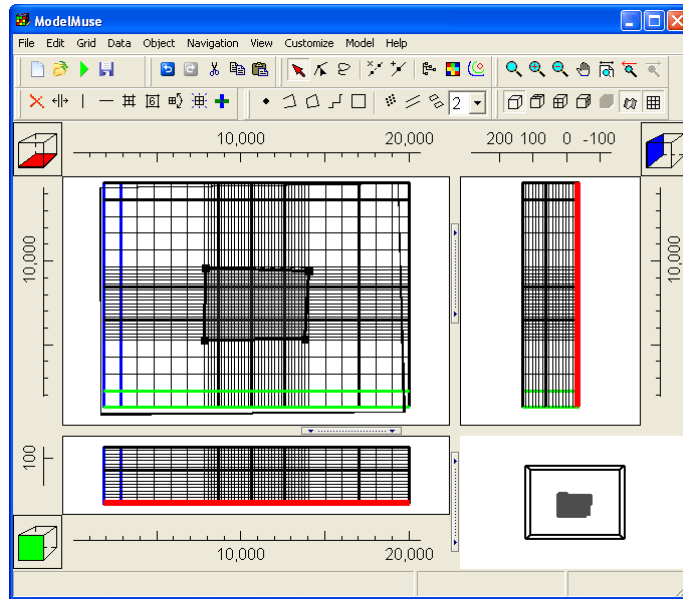

Figure 15. Grid with region with smaller elements specified by polygon object.
3. It may be desirable to have a finer grid in some regions than others. To do this, additional objects can be used to specify a zone where a fine grid will be used (fig. 15). In this example, the object specifies an element size of 200 m in the **Grid element size** edit box of the **Object Properties** dialog box.
4. After choosing **Grid|Generate Grid...** again, a new grid is created with a smaller element size in the area enclosed by the object (fig. 15).